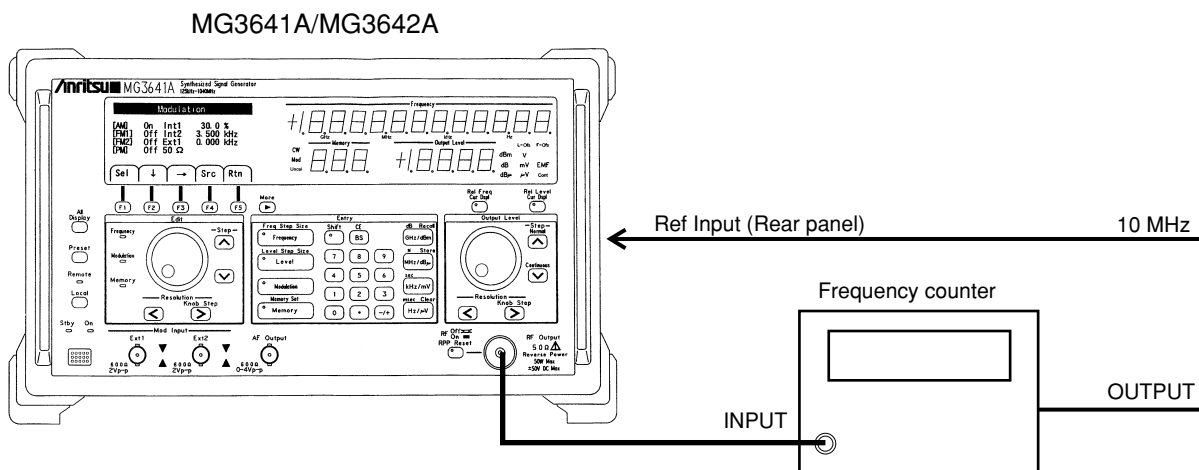

Fig. 7-1. Output Frequency Test
2.	Connect the MG3641A/MG3642A output to the input of the frequency counter. (See Figure 7-1.)